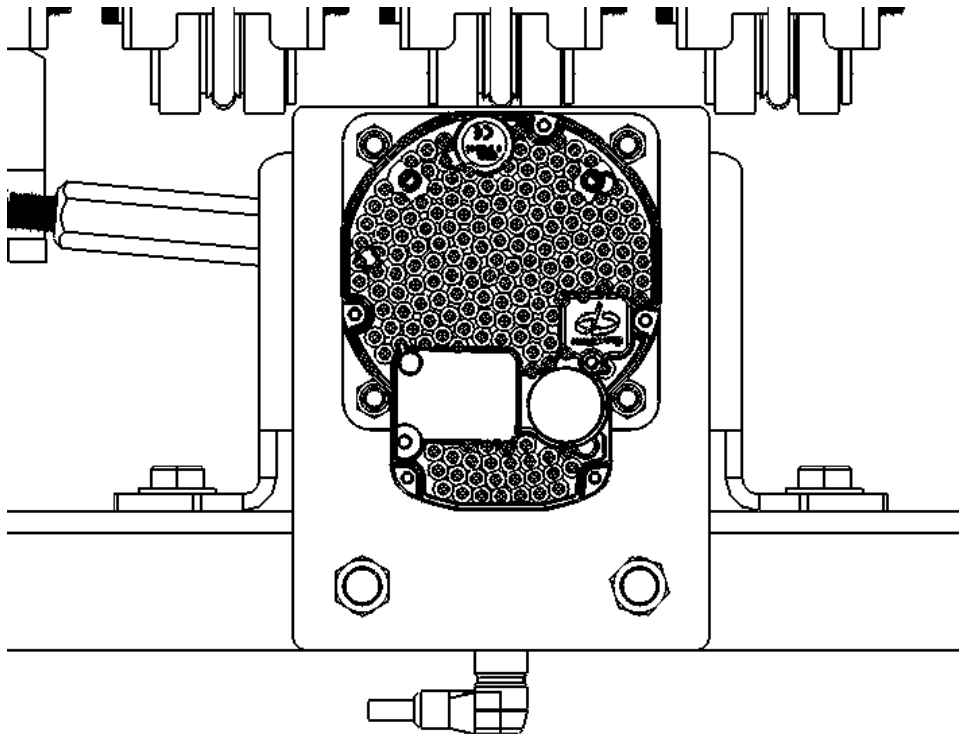

Figure 18: PWD divert motor mounting location and hardware
2. The PWD divert motor is located at the upstream side of the PWD with its axis of rotation perpendicular to the rollers. Figure 18 illustrates the location and mounting of the PWD divert motor.